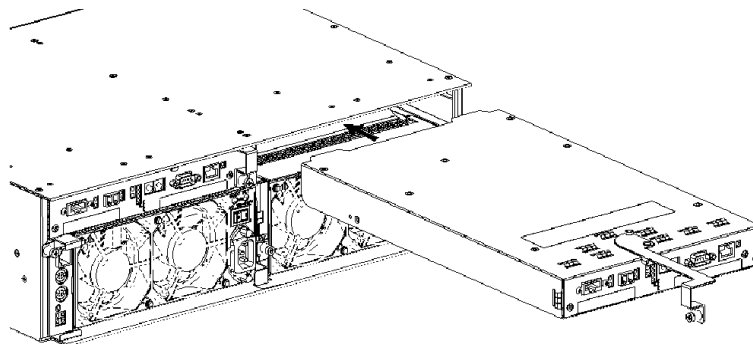

Figure 3-8. Installing a Replacement Controller.
10. Open the ejectors of the controller, insert the controller into the chassis. See Figure 3-8.